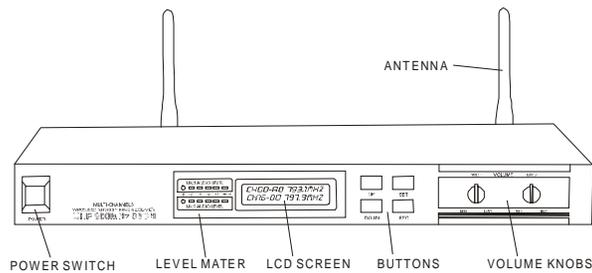

Fig.23 Receiver 8220
4.4.1 Receiver 8220 was shown in Fig.23. Take out the receiver and the receive antennas from packing box; place the receiver near the performance area (stage), mounting the antennas to the receiver. Point the antennas upward. Make sure, that the transmitter (microphone) will never get any closer to the receiver than 10 ft (3m), optimum separation is 16 ft (5m). There should always be a direct line of sight between the microphone and receiver. Place the receiver least 5 ft (1.5m) away from any big metal objects, walls, scaffolding, ceilings, etc.